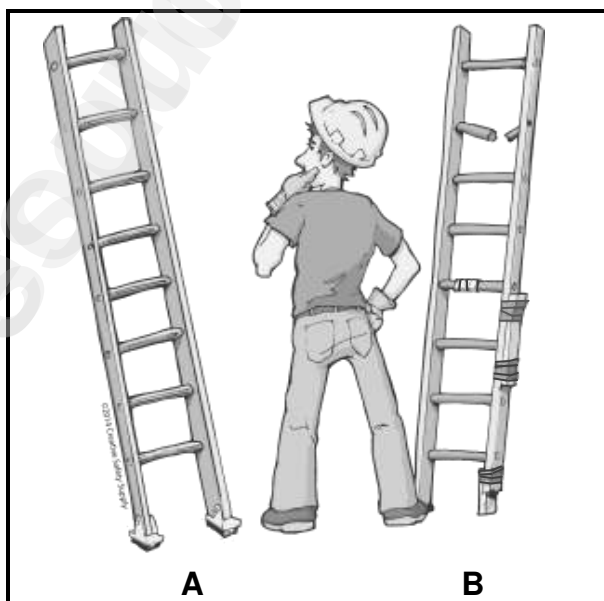

FIGURE 1.2
- 1.2 FIGURE 1.2 below shows equipment that is used on a construction site.
- 1.2.2 Deduce from FIGURE 1.2 the safest option to use, **A** or **B**. Motivate your answer. (2)
1.2.3 Explain the purpose of the equipment in FIGURE 1.2. (1)